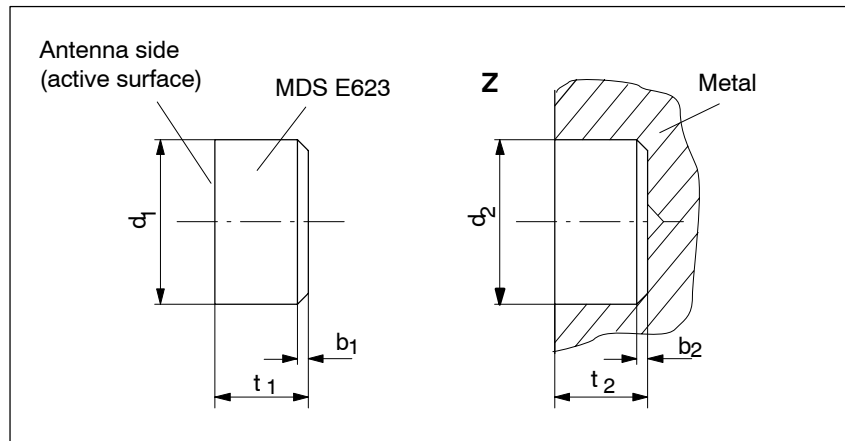

Figure 4-11 Dimensions and installation space for MDS E623
- Press MDS E623 in by hand. Antenna side to outside (see Figure 4-11).